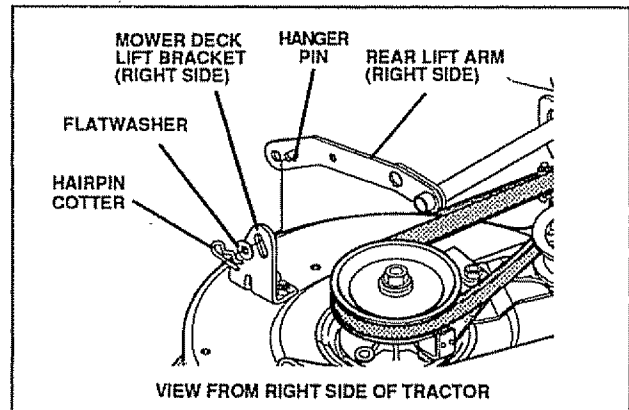

FIG. 23B
- Remove hairpin cotter and Flatwasher from hanger pin of right rear lift arm and slide off right mower deck lift bracket (see Fig. 23B).
- Remove hairpin cotter and Flatwasher from hanger pin of left rear lift arm and slide off left mower deck lift bracket (see Fig. 23B).
- Underneath the footrests of the tractor, remove hairpin cotter and flatwashers from left and right hand hanger pins and lay aside (see Fig. 23B).
- Place cutting height adjustment pedal in lowest position by moving memory rod to position 1 and pressing pedal latch to release cutting height adjustment pedal. **NOTE:** Be sure left and right lift arms are to the inside of left and right deck lift brackets (see Fig. 23B).
- Lift deck slightly and flex right rear hanger pin inward to snap hanger pin into right deck lift bracket slot. Secure hanger pin in place with Flatwasher and hairpin cotter removed earlier (see Fig. 23B).